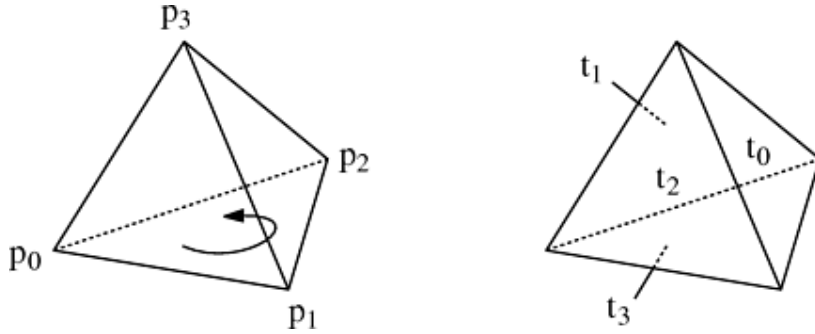

Figure 16.14: Numbering of points in a tetrahedron with positive volume (left). Numbering of the corresponding triangles (right).
- The `tetras` array describes the actual tetrahedra. For each tetrahedron, the indices of the four points and the indices of the four triangles it consists of are stored. The numbering of the points and triangles is shown in Figure 16.14. In particular, the fourth point is located above of the triangle defined by the first three points. Triangle number i is located opposite to point number i .